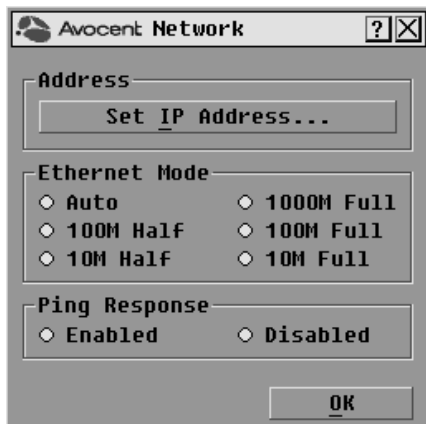

Figure 3.11: OSCAR Interface Network Dialog Box
2. Click *Setup - Network* to open the Network dialog box shown in Figure 3.11.